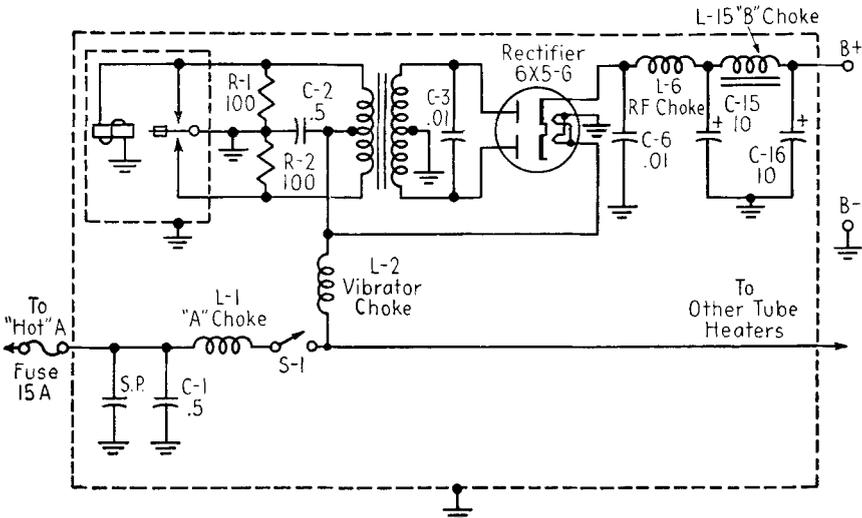

FIG. 21-14. Typical automobile radio vibrator-type power supply.
**Standard Diagram.** The standard diagram is shown in Fig. 21-14.